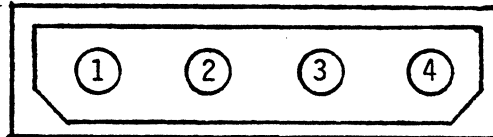

Figure 2 P6 Front View
1. Pin Assignment (See Figure 2)